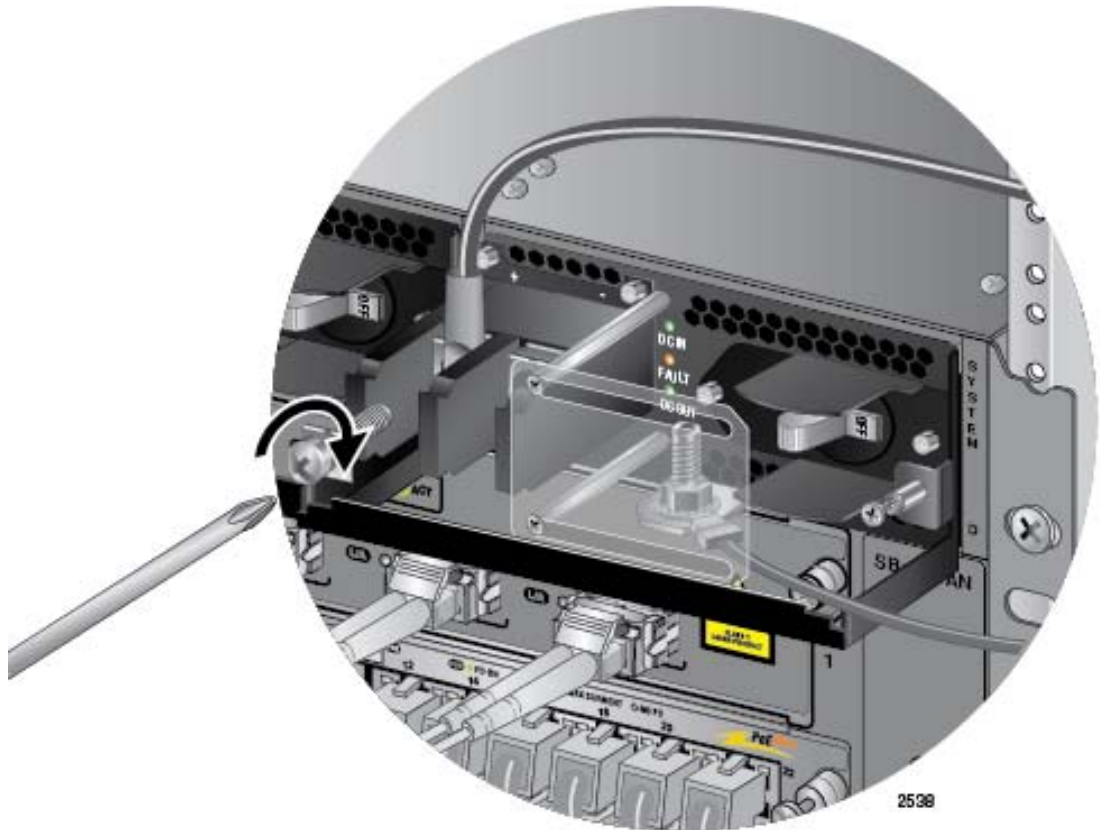

Figure 138. Connecting the Positive (+) Power Wire with a Straight Terminal
6. With a #3 Phillips-head screwdriver, connect the positive (+) power lead wire to the positive terminal on the power supply, with one of the terminal screws removed in the previous step. The positive terminal is on the left. You may attach the terminals with the wires either above or below the terminal block. Figure 138 on page 204 shows the wires above the terminal block.